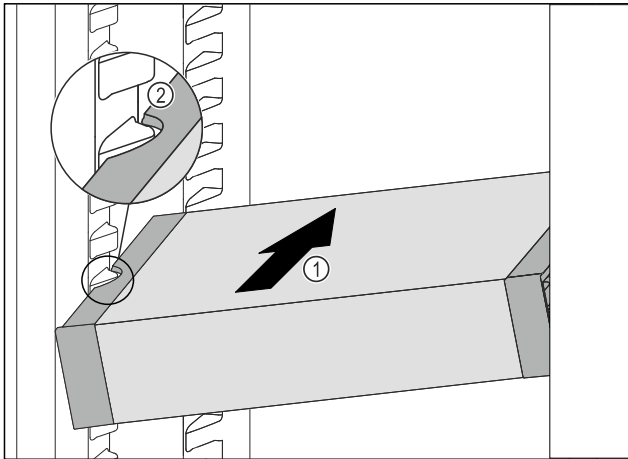

Fig. 74
- ▶ Insert the VarioSafe into the refrigerator compartment at an angle *Fig. 74 (1)* until the recesses in the side *Fig. 74 (2)* of the VarioSafe are at the level of the support rib in the refrigerator compartment.